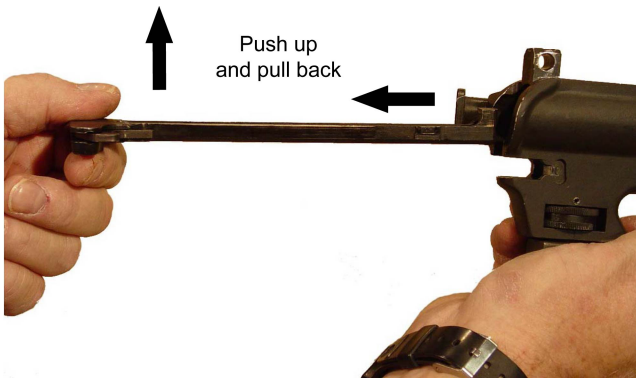

Figure 3-8. Charging Handle Removal
- (3) Remove the charging handle. Refer to Figure 3-8.